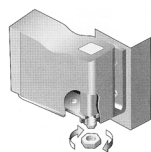

Fig 5.
- Remove the locknut from the bottom hinge bracket (see fig. 5).